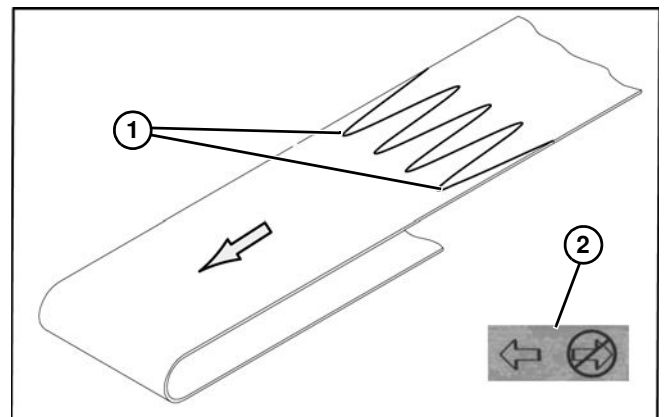

Figure 85
2. Orient belt so splice outer fingers (**Figure 85, item 1**) point in the direction of belt travel as identified by the conveyor directional label (**Figure 85, item 2**).